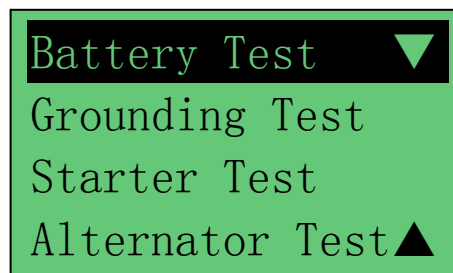

Figure 41
3. After you have made your choice, selecting “New: Clear Memory” or “Continue...Test” will proceed to the display below: (Fig. 41)